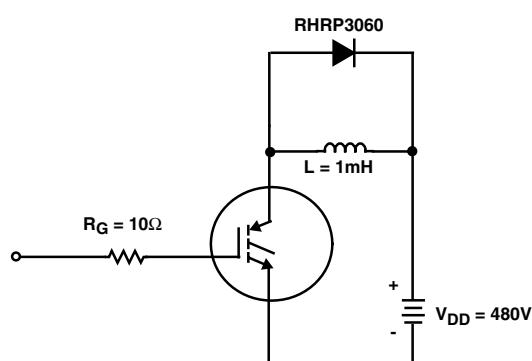

FIGURE 17. INDUCTIVE SWITCHING TEST CIRCUIT
4. Values for two Turn-On loss conditions are shown for the convenience of the circuit designer.  $E_{ON1}$  is the turn-on loss of the IGBT only.  $E_{ON2}$  is the turn-on loss when a typical diode is used in the test circuit and the diode is at the same  $T_J$  as the IGBT. The diode type is specified in Figure 17.